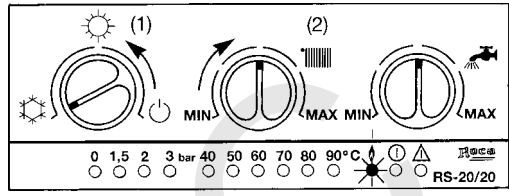

Fig. 9
Turn the DHW dial (3) to the temperature required (See Fig. 9). If there is a hot water demand at any tap, the boiler will start up.